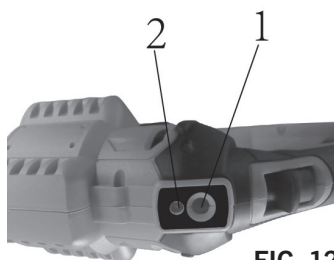

FIG. 12
The speed (pressure) adjustment button is located on the top of the machine (1) Fig.12. To select desired speed (pressure), press the button (1) and the indicator (2) will change color depending on the setting selected. Red is the higher setting (or higher speed/pressure/flow), press again and the indicator will change to green which is the regular setting (lower speed, pressure/flow).